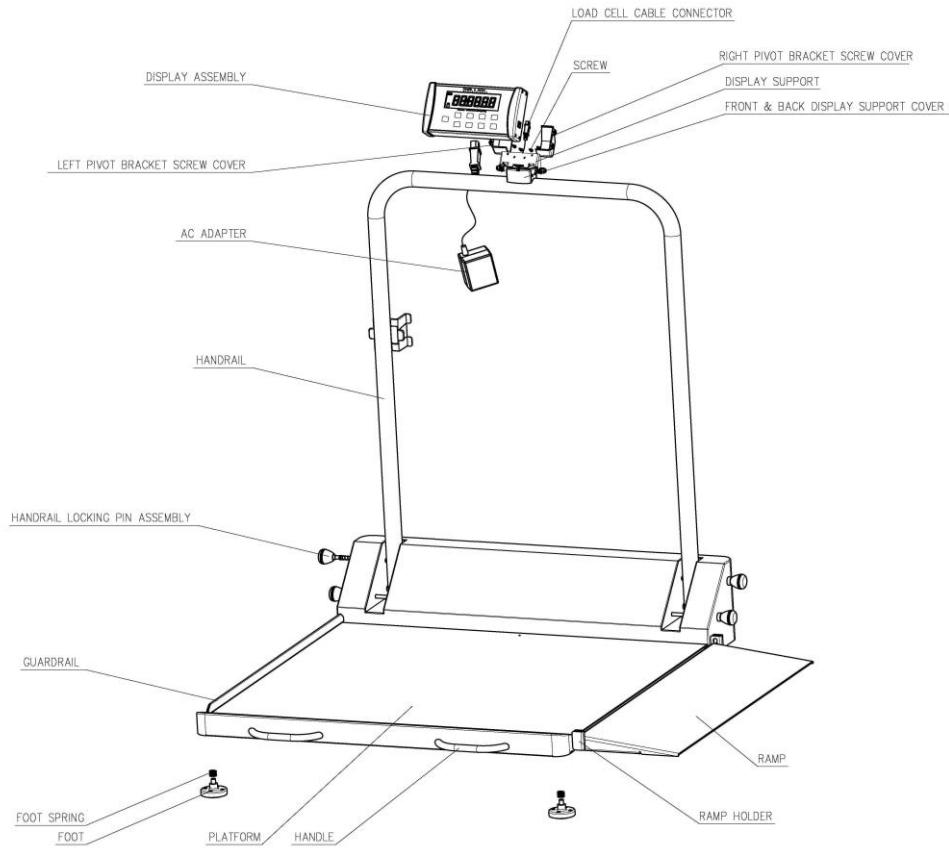

Figure 8
3. Thread the (4) feet into the underside of the scale platform (see Figure 8). Each foot should initially be completely hand tightened. Back feet out 1-½ full turns. This will allow for proper load cell operation and scale accuracy.